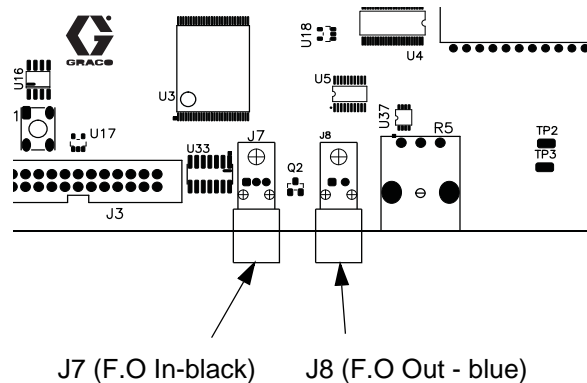

FIG. 14 EasyKey Circuit Board
5. Route the fiber optic cable end through the square adhesive backed tie holder. Connect the blue and black cable connectors to the matching connectors on the EasyKey circuit board. See FIG. 14. Insert the cable connectors until they bottom out (approximately ¼ in. [6 mm]), then tighten the threaded connector.